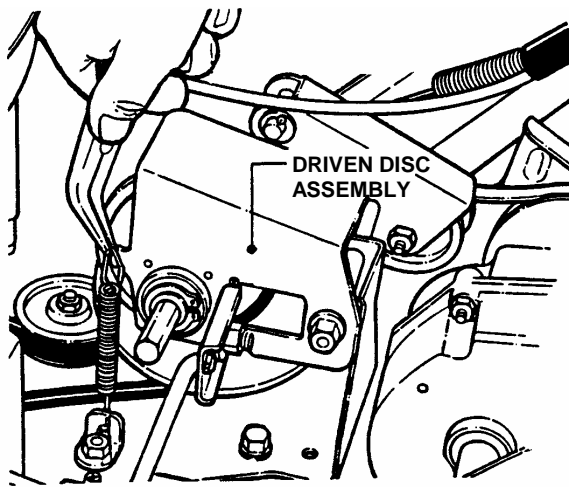

FIGURE 4.12
2. Using needle nose pliers, unhook the drive spring and slide the driven disc assembly off the hex shaft. See Figure 4.12.
2. Using needle nose pliers, unhook the drive spring and slide the driven disc assembly off the hex shaft. Refer to Figure 4.12.